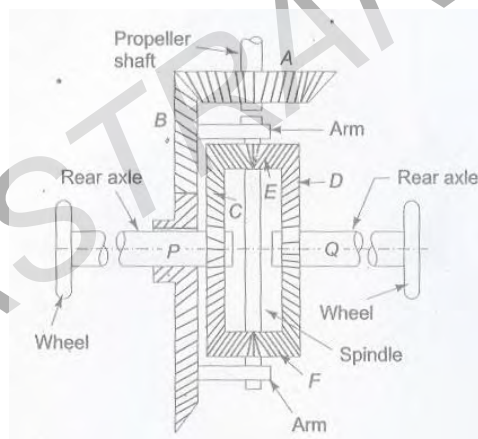

Figure 5
5. The differential gear used in an automobile is shown in figure 5. The pinion A on the propeller shaft has 12 teeth and the crown gear B has 60 teeth. The shafts P and Q form the rear axles to which the road wheels are attached. If the propeller shaft rotates at 1200 rpm and the road wheel attached to axle Q has a speed of 250rpm while taking a turn, find the speed of road wheel attached to axle P. [16]